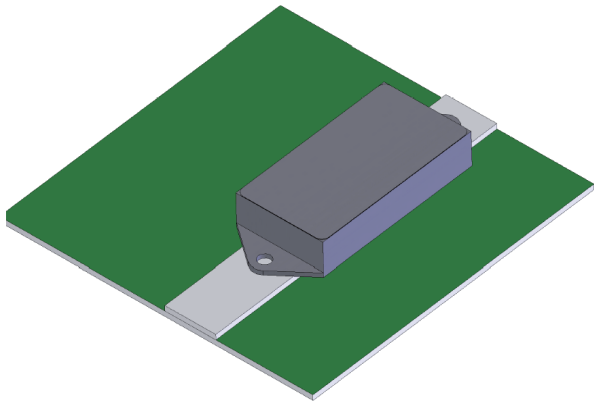

Figure 9. Converter/Heat Spreader/PCB Assembly.
When the PCB alone is not sufficient to carry heat away from the hybrid, a heat spreader can be added to the assembly as shown in Figure 9. In this case, the thermal path through the PCB can usually be ignored and the case temperature of the hybrid can be calculated directly from (5). Additionally, intentionally isolating the thermal spreader and hybrid from the PCB can serve to lower the temperature of the PCB and surrounding components.